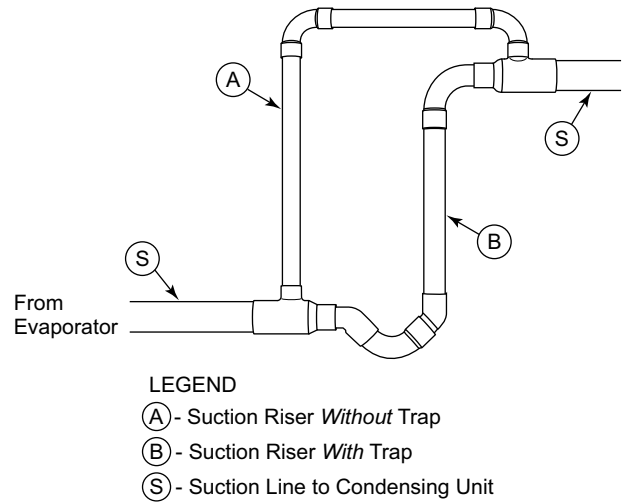

Fig. 7 — Suction Line Piping — Double Riser
- c. See Fig. 7 for double riser diagram.
See Fig. 7, for double riser reference, where, tube S is the horizontal line size, tube A is the reduced diameter riser size without bottom trap, and tube B is the parallel riser size with bottom oil trap.